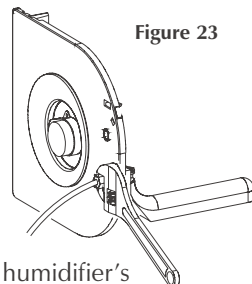

Figure 23
3. Push the plastic tubing firmly into the humidifier's float valve threaded water inlet. Carefully begin tightening the nut by hand. Use an adjustable wrench to finish tightening. (Fig. 23)